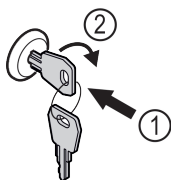

Fig. 83 Example illustration
- Insert key Fig. 83 (1).
- Turn key clockwise by 90° Fig. 83 (2).